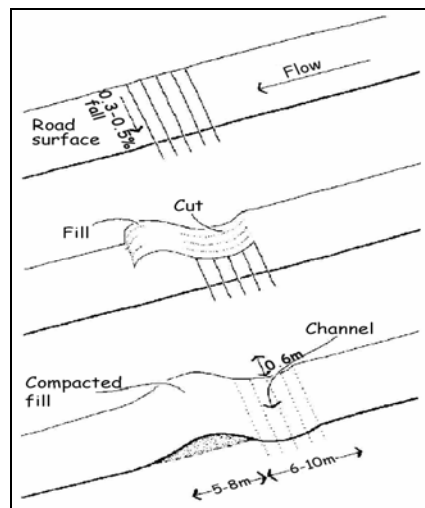

Figure 1 Whoa boy construction
1. By cut and fill – Lines are ripped across the area at a grade of 0.3 %. A shallow channel should be cut along this line. Excavated material is dumped on the down slope side of the channel, then compacted and smoothed out to form a bank with even batters and a level top (See Figure 1).